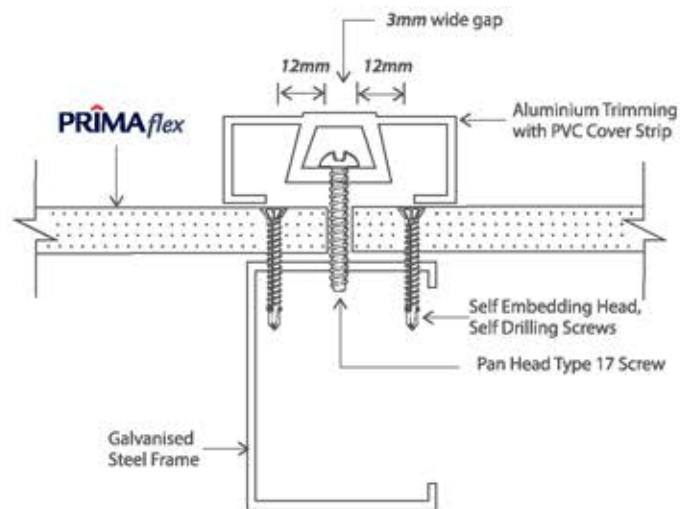

Figure 2.8: Aluminum Extrusion Joint
5. When PRIMAflex is applied as internal wall lining, the joint may also be decorated with aluminium extruded profile as shown in Figure 2.8.